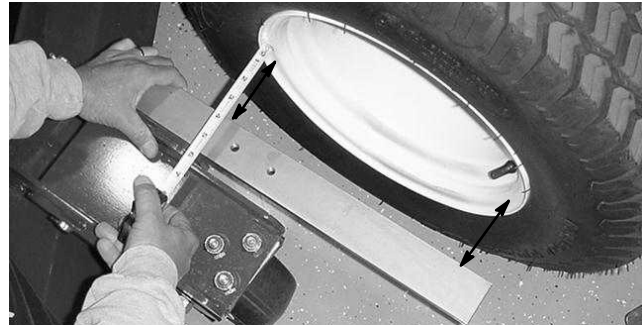

Figure 10
- B. Place a square or straight edge against the deck weldment that contains the castor fork assembly (Fig. 10). Do not use the castor fork assembly itself.
- C. Measure from the inset bead of the rim (not the outer edge of the rim) to the straight edge at two locations as indicated in Figure 10. Rim and paint irregularities make the rim outer edge an unreliable point of measure. These two measurements should be the same within a tolerance of 1/8" (3 mm).